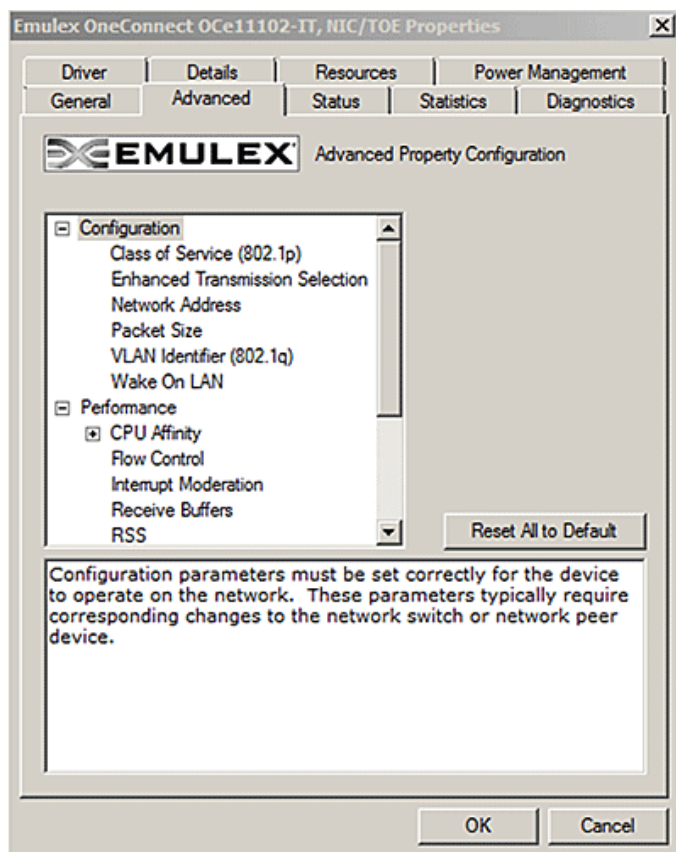

Figure 3-2 NIC Advanced Properties in Windows Server 2008
3. Click **Properties**, and click the **Advanced** tab (Figure 3-2 on page 64).